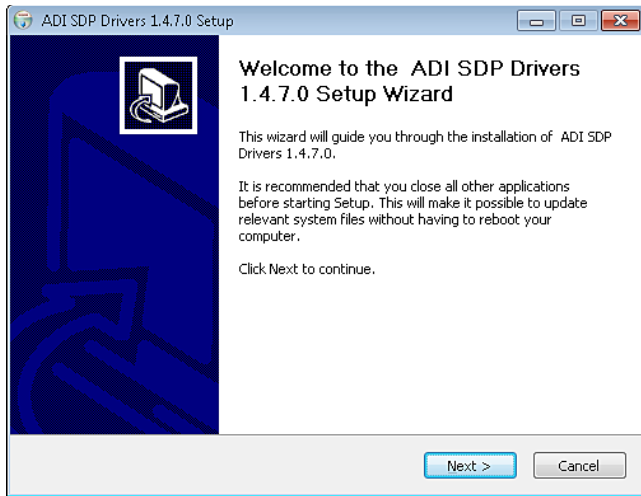

Figure 10. Beginning the Drivers Installation
1. With the EVAL-SDP-CH1Z system demonstration platform board still disconnected from the USB port of the PC, ensure that all other applications are closed, and then click **Next** (see Figure 10).